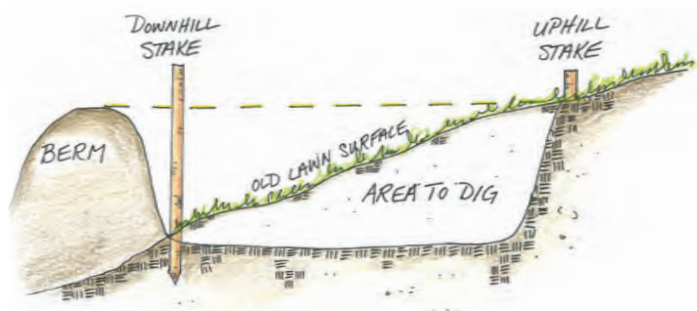

Figure 2. Where to dig and put the soil on a sloped site.
- a. *On a Slope:* If the rain garden is on a slope, a berm will be needed. The sod and soil material excavated from digging the garden should be reserved to build the berm (Figure 2).